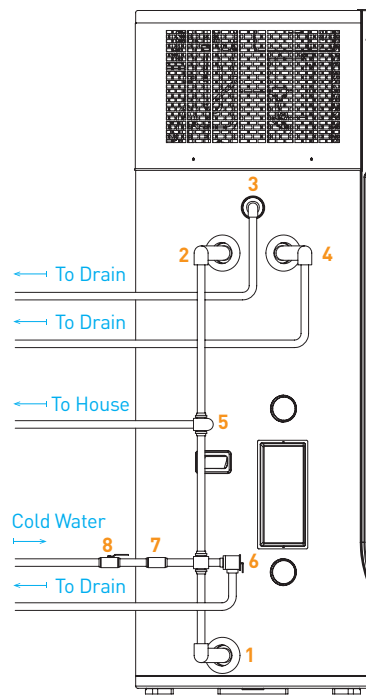

Figure 8
- Avoid placing the system in locations with multiple walls or structures (i.e., consult with Figure 7 and Figure 8).
- The safety relief valve on the tank, the PTRV (item #4 in figure 8), needs to be opened every six months to ensure it works correctly and is not blocked. Failure to do so may void the warranty.
- The process of heat extraction from the atmosphere through evaporator coils results in the production of water in the form of condensation. To collect this water by-product a Condensate Tray is located on top of the water storage tank. Overflow from this tray runs out through the Condensate Drain (item #3 in figure 8). The systems condensate drain is connected by a 1/2-inch copper elbow. Drain the condensate from the elbow to the nearest storm water via copper piping. If not drained properly, the condensate line will attract termites as well produce algae and moss growth. The Condensate line should be free of kinks and as the water is gravity fed, this should be vertical to ensure the free flow of water. Connecting any pipe directly to the condensate line without an air gap will void warranties.